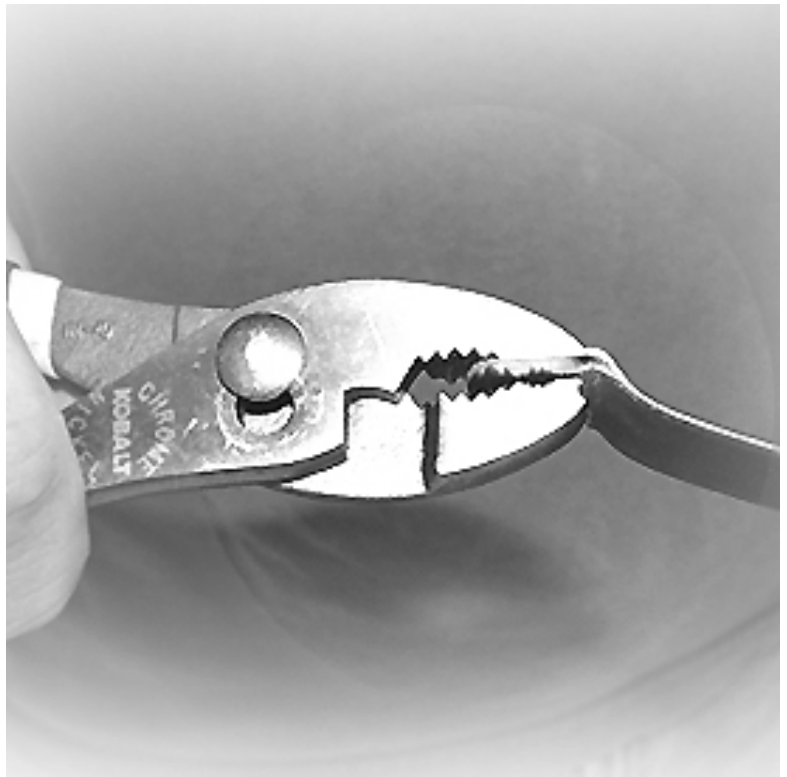

Figure 3-6
- 3.5 Bend back one end of the second stainless steel band from the supplied 90 degree angle to approximately 30-45 degrees, as shown in Figure 3-6. This will allow the Band to pass under the Rocket Launch Tube, during re-assembly.